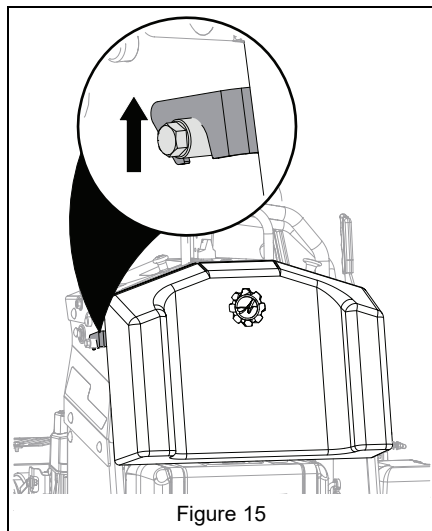

Figure 15
5. Disengage pad latch and rotate swing operator pad outward. See Figure 15.